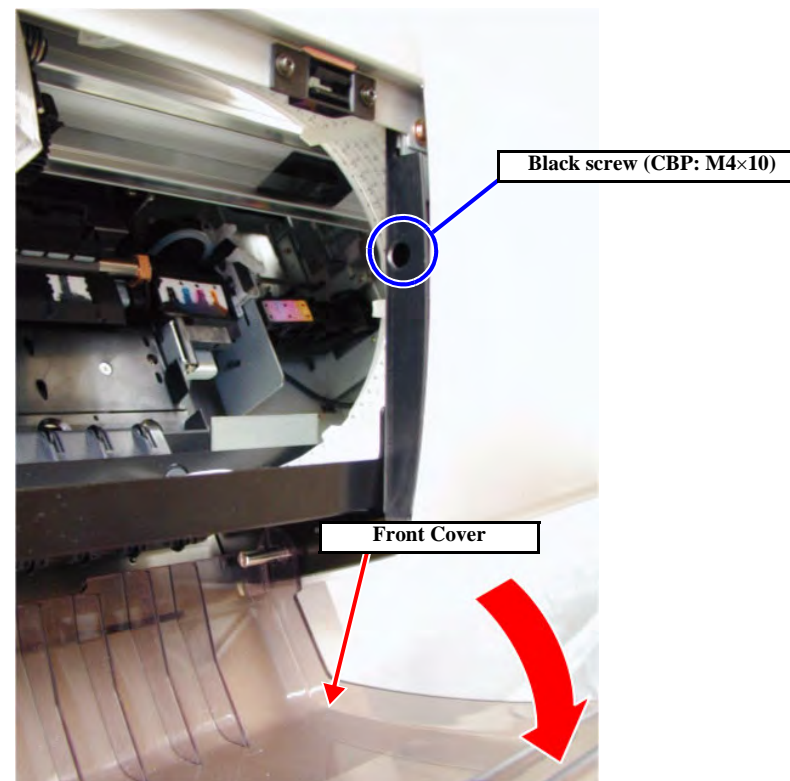

Figure 4-9. R Side Cover Removal 4/5
10. Open the Front Cover. (See Figure 4-9)